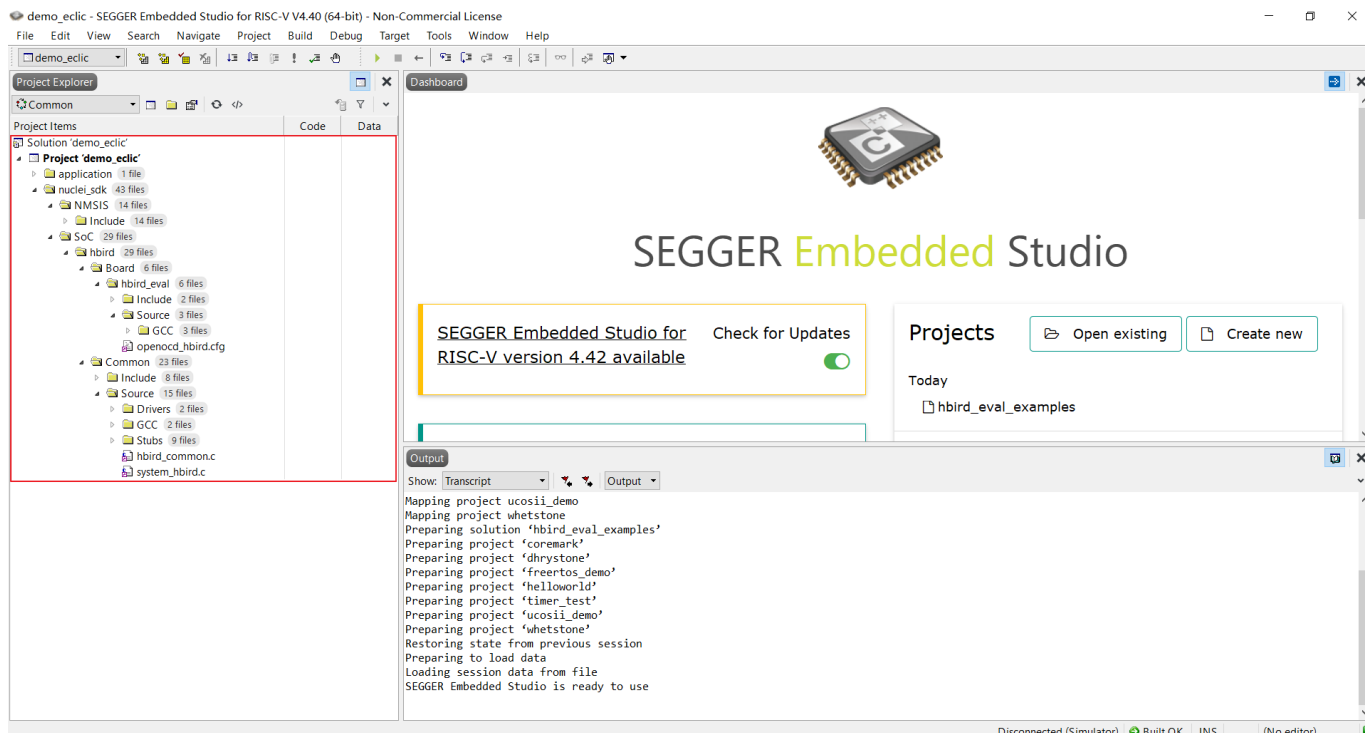

Figure 2-12 The Structure of the New Project in SES
- Note: Please add only the contents under the hbird folder in SoC directory. The final project directory is shown in Figure 2-12.